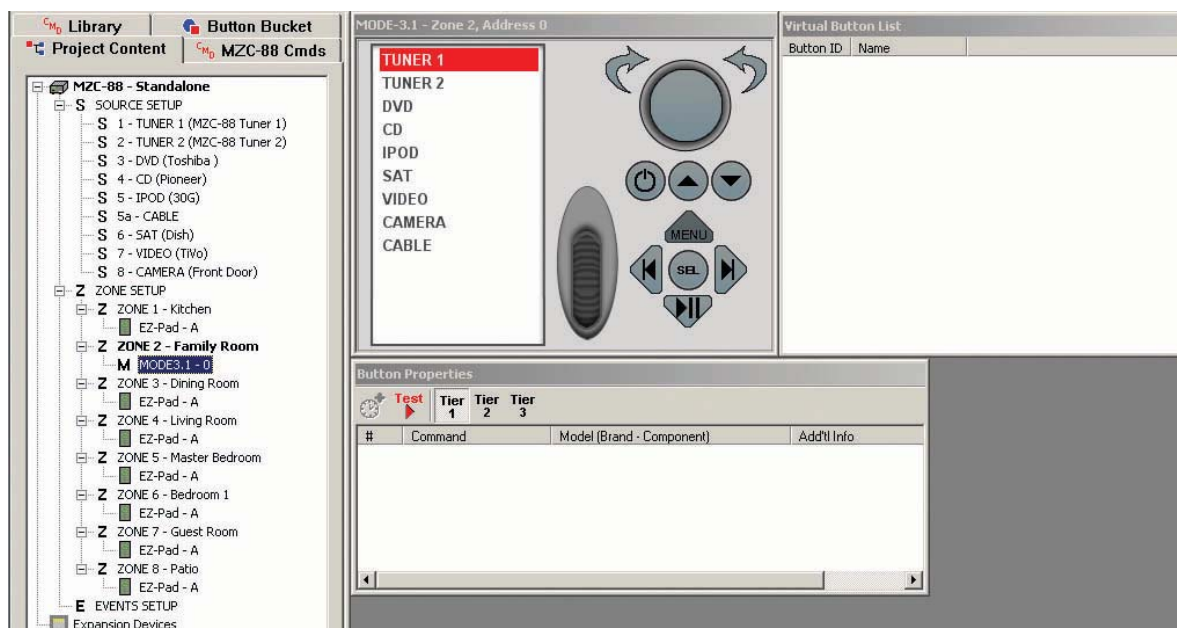

Figure 24
- This completes Zone Setup for integrating the MODE 3.1 into Zone 2. Left click the MODE 3.1 icon under **Project Content/Zone Setup/Zone 2**. The **virtual MODE 3.1** will appear along with the **Button Properties Window** and the **Virtual Button Window**. (Refer to **Figure 24**)
To program the MODE 3.1 shown in **Figure 24**: